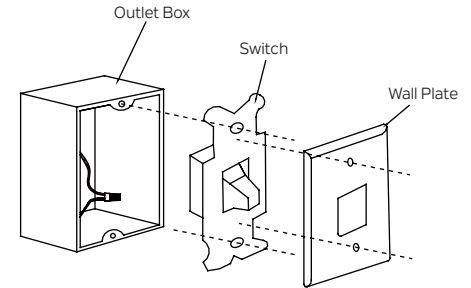

Fig. 23
Step 1. Remove the existing wall plate and the old switch from the wall outlet box. Wire the BLACK leads (hot) together with connector and push back inside the outlet box. (Fig. 23)